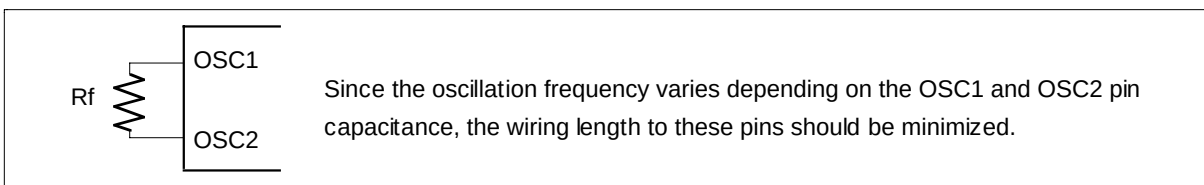

Figure 53 Internal Oscillation
10. Applies to the internal oscillator operations using external oscillation resistor R_f (figure 53 and table 26).